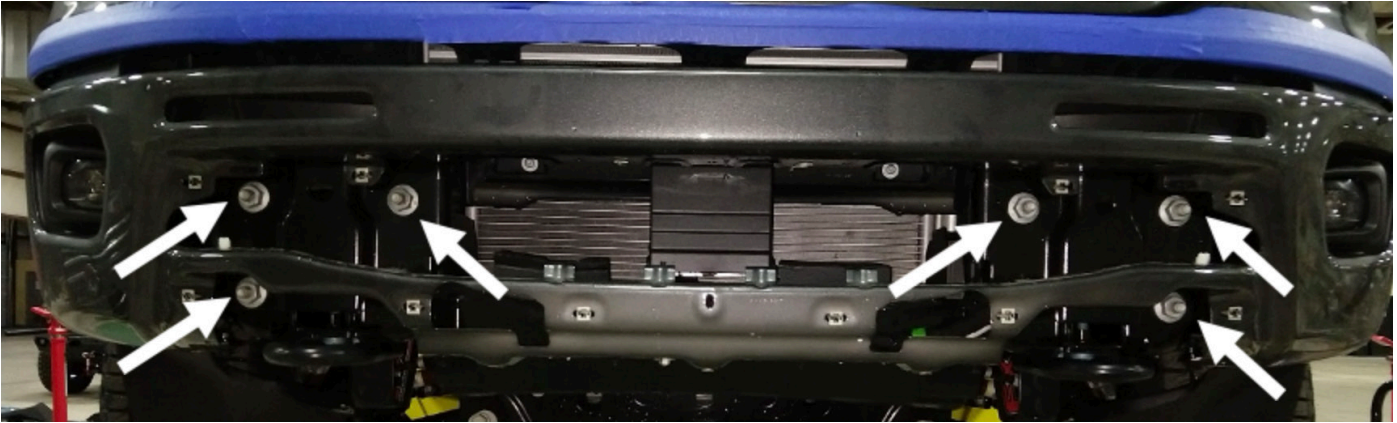

Figure 4
5. Using a 21mm socket wrench, remove the six (6) nuts that attach the bumper the frame. Remove the OE bumper from the truck at this point. Figure 4.